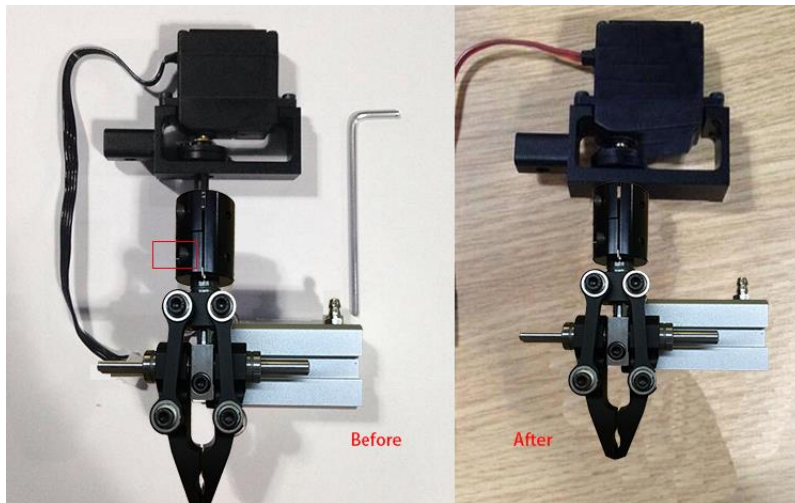

Figure 5.10 Install a gripper kit
- Step 2** Install a gripper kit to the servo with a 2.5mm hexagon wrench, as shown in Figure 5.10.